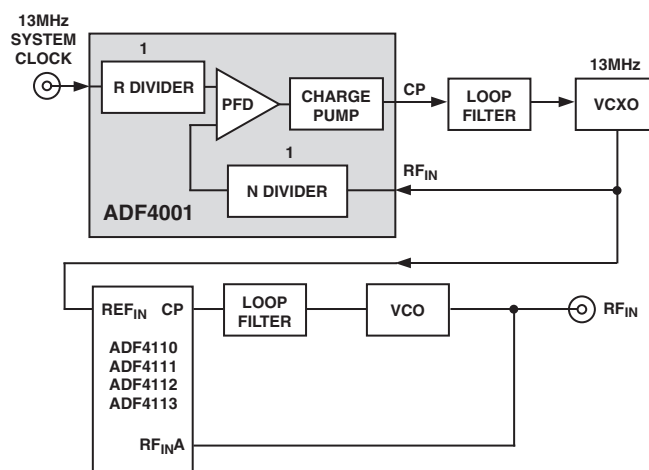

Figure 7. Low Jitter, Stable Clock Source for GSM Base Station Local Oscillator Circuit
Figure 7 shows the ADF4001 being used with a VCXO to produce an extremely stable, low jitter reference clock for a GSM base station local oscillator (LO).